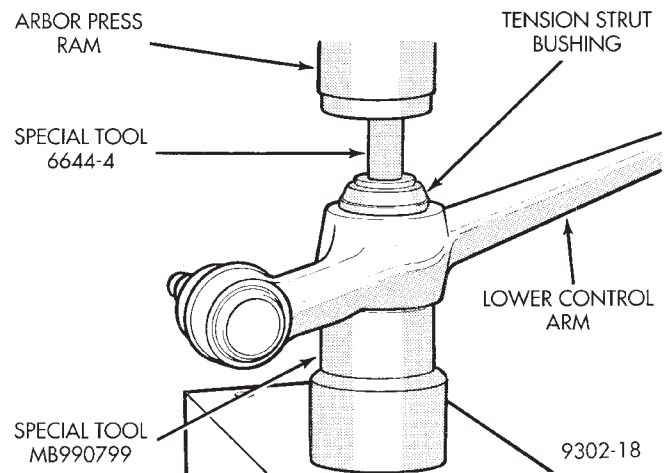

**Fig. 75 Removing Lower Control Arm Tension Strut Bushing**
(1) Raise the vehicle using a frame contact type hoist or supported as required using jackstands. See Hoisting in the Lubrication and Maintenance group of this service manual for the required hoisting or jacking procedure to be used for this vehicle.
(2) Remove tire and wheel from vehicle.
(3) Remove lower control arm and tension strut as an assembly from the vehicle. See Lower Control Arm Removal in this section of the service manual for the required removal procedure.
(4) Separate the tension strut from the lower control arm assembly.
(5) Position lower control arm in arbor press with tension strut bushing inside Receiver, Special Tool MB-990799 and special tool supporting lower control arm (Fig. 75). Position Remover, Special Tool, 6644-4 on top of tension strut bushing (Fig. 75). Press Remover, Special Tool, 6644-4 down through the ten-